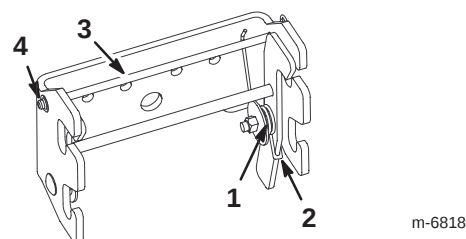

Figure 12
3. Use a screwdriver to hook the spring end around the side of the release lever as shown in Figure 12.
2. Insert a push nut onto the end of the stop rod (Fig. 12) that does not have the hole.
3. Insert the stop rod in the front Attach-A-Matic as shown in Figure 12.